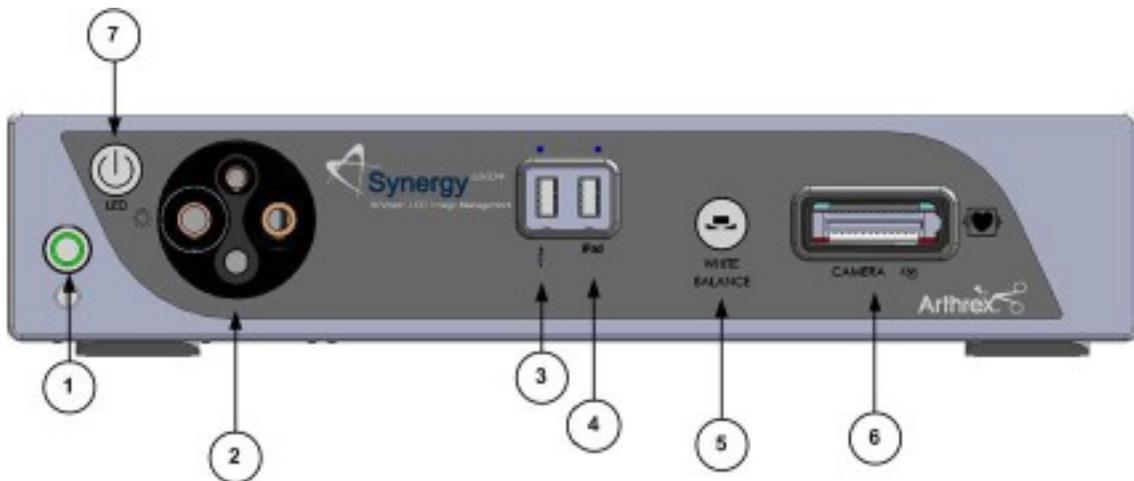

Figure 1- Synergy^{UHD4} Front Panel [AR-3200-002X]
3. Inserting an incompatible Camera Head into the camera receptacle (see Figure 1) can result in damage to the CCU.
WARNING: Inserting an incompatible Camera Head into the camera receptacle (see Figure 1) can result in damage to the CCU.